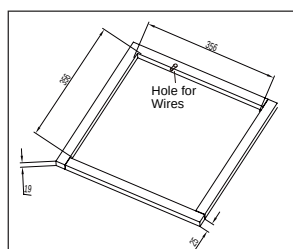

Figure 1
3.Examine the roof opening size, if the opening is small than 356x356mm, the opening must be enlarged. If the opening exceeds 356x356mm, a mounting plate (frame) must be fabricated to reduce the opening size (See Figure 1).
If a roof vent opening is not used, a new opening (see figure 1) will be cut into the vehicle roof. A matching opening will also have to be cut into the interior vehicle ceiling, be careful when cutting the ceiling opening because if the ceiling opening is carpeted, snagging could occur. After the opening in the roof and interior ceiling are the correct size, a framed support structure must be placed between the exterior roof top and interior ceiling. The reinforced framed structure must follow the following guidelines:
2.It must be capable of holding the roof outer surface and interior ceiling apart and supporting them, so that when the roof top air conditioner and ceiling assembly are bolted together, no collapsing occurs. A typical support frame is shown in Figure 1.